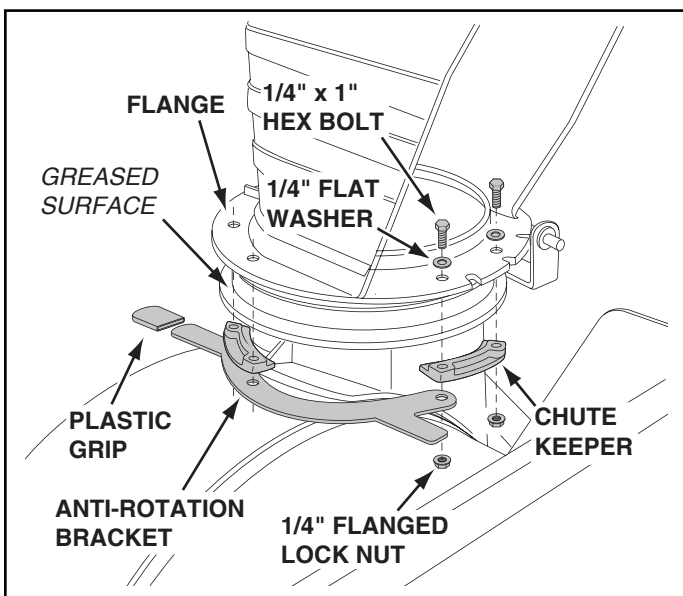

FIGURE 19 RIGHT FRONT CORNER VIEW
- Coat the top of the ring around the discharge opening with general purpose grease. See figure 19.
- Attach the three chute keepers (right side up as shown in figure 19) and the anti-rotation bracket to the bottom of the chute flange. Use six 1/4" x 1" hex bolts, 1/4" flat washers and 1/4" flanged lock nuts. **Tighten carefully** so that the plastic parts are not deformed. See figure 19.
- Place the plastic grip onto the back end of the anti-rotation bracket. See figure 19.
- Position the chute crank assembly so that the crank rod spiral does not rub the bottoms of the notches in the chute flange and then **tighten** the nuts left loose in figure 19.